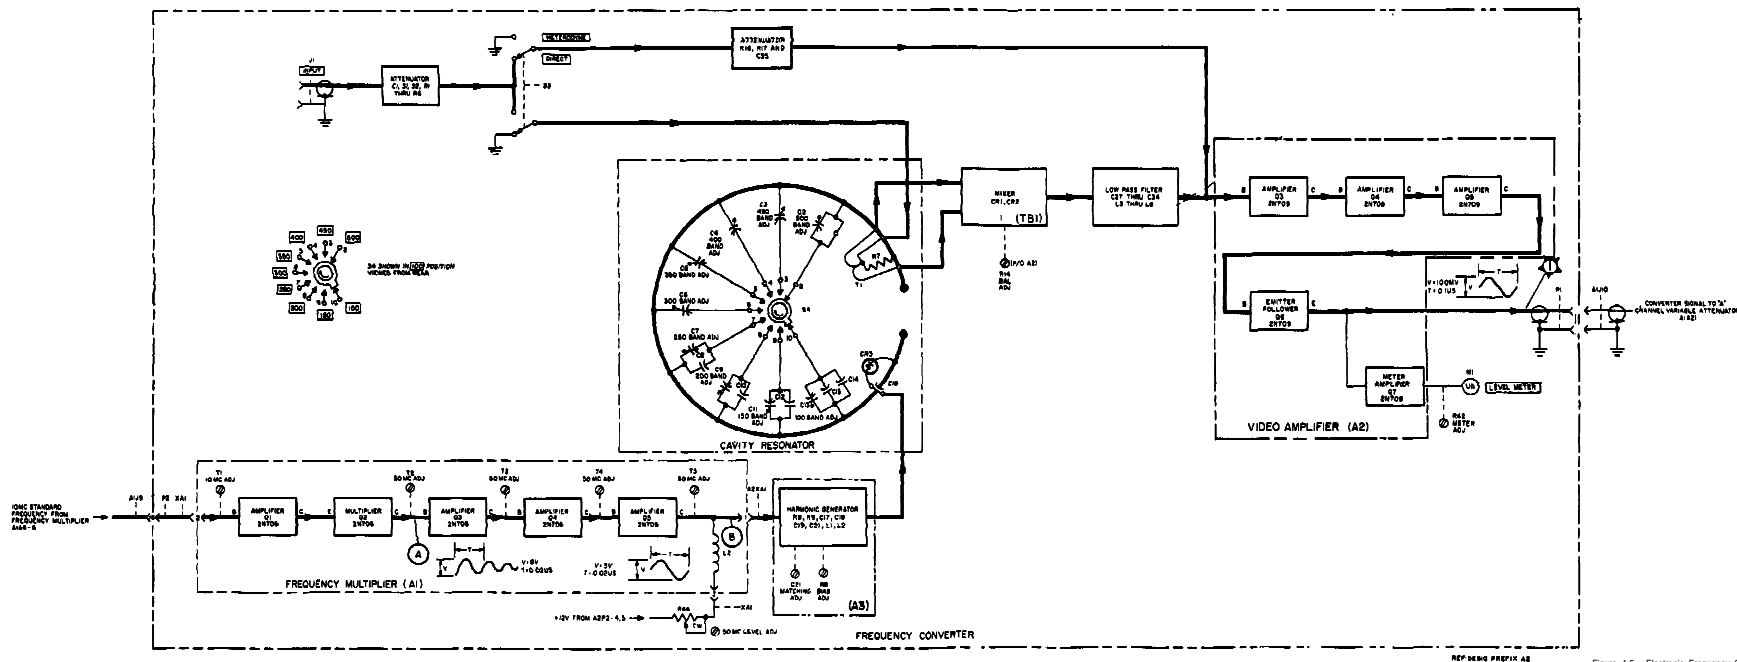

Figure 4-5. Electronic Frequency Converter CV-1921A/USM-207. Functional and Servicing Block Diagram
a. ELECTRONIC FREQUENCY CONVERTER CV- 1921A/USM- 207 FUNCTIONAL DESCRIPTION. - The converter is a separate assembly consisting of all circuits necessary for converting signals in the frequency range of 100 mc to 500 mc to a frequency range within the measurement capabilities of the counter. Figure 4-5 shows the functional relationship of all circuits in the converter and gives test points and waveforms as an aid in trouble shooting.
The remaining circuits of the converter consist of the attenuator, the mixer, and the video amplifier. The arrangement of these circuits is shown in figure 4-5,
c. USEFUL ILLUSTRATIONS. - Illustrations useful in maintaining this functional section are: figures 4-5, 5-4, 5-5, 5-6, 5-7, 5-8, 5-9, 5-52, 5-53, 5-54, 5-55, 5-60, 5-61, and 5-62.